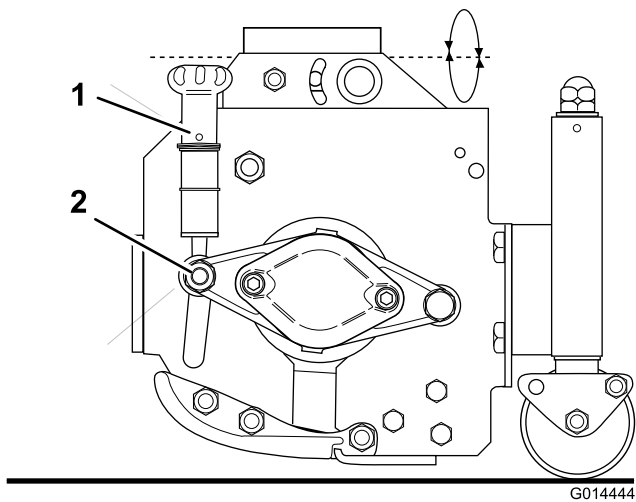

Figure 69
3. If adjustment is necessary proceed as follows, release the nut (Figure 69) a 1/4 turn on both ends.
4. Turn hand wheel (Figure 69) each end alternately whilst rotating the cutting cylinder backwards until the bottom blade is in fleeting contact with the cylinder along its entire length.
6. Tighten nut (Figure 69) both ends.